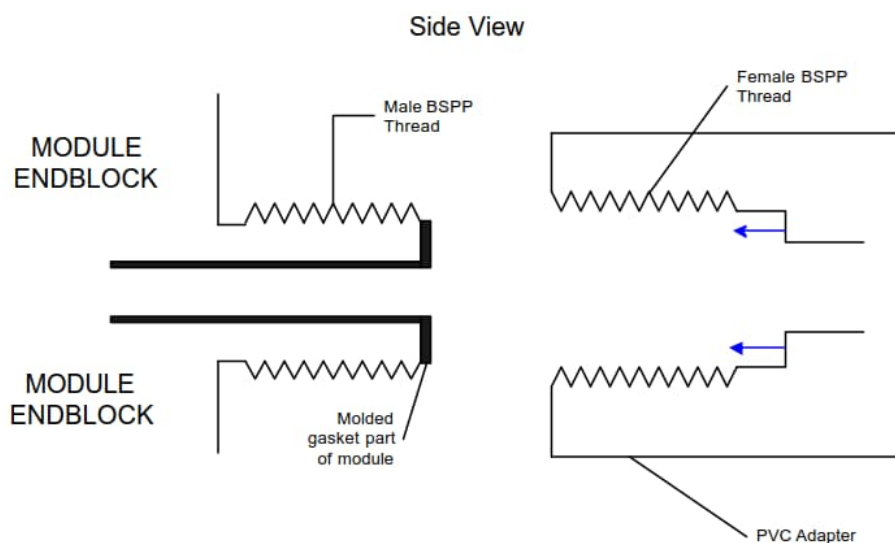

Figure 3-3 LX Piping Adapter Sealing Mechanism: Non-HWS Modules
The endblocks used in LX models EU, X and Z are made of thermoplastic elastomer, (TPE) which is molded through (4) hard plastic fittings with Male BSP parallel threads. The TPE covers the face of the threaded fittings, making a flat surface for sealing of the external piping adapters. The end block threads are NOT TAPERED pipe threads and the threads DO NOT CREATE the seal, they allow the sealing surfaces to move towards each other and they hold the piping adapters in place. The seal comes from the TPE through-port gasket that isolates the endplate and creates a sealing surface directly to the internal LX spacer. See Figure 3-3, below.